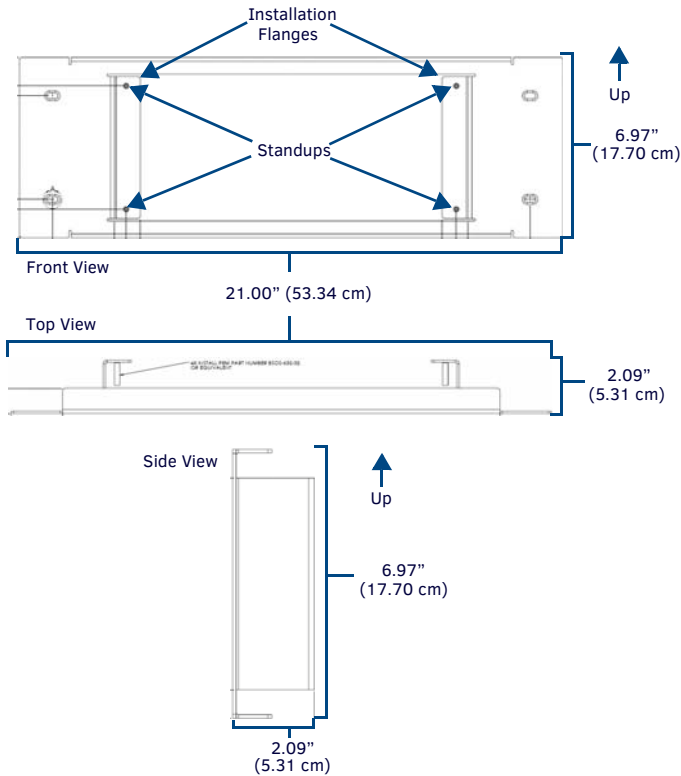
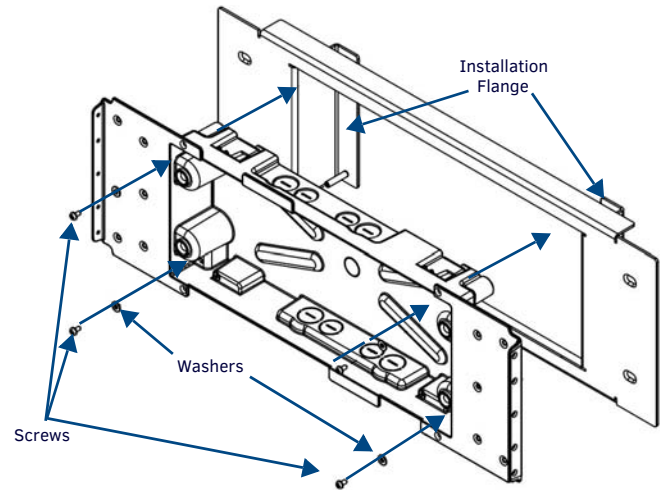
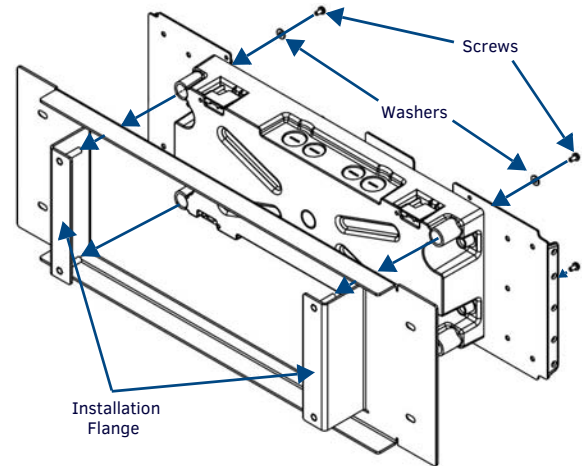

FIG. 1 MXA-RMK-19
FIG. 2 INSTALLATION OF THE BACK BOX INTO THE MXA-RMK-19, FRONT VIEW
FIG. 3 INSTALLATION OF THE BACK BOX INTO THE MXA-RMK-19, REAR VIEW
The MXA-RMK-19 Modero X Series® Rack Mount Kit (FG5969-61) is an optional accessory for the MXD-1900L-PAN 19.4" Modero X Series Panoramic Wall/Flush Mount Touch Panel (FIG. 1). The kit allows the touch panel to be mounted directly on an equipment rack, and includes a rack mount frame, screws and washers.
1. Secure the Rack Mount Panel to the rack with #10 screws. Make sure that the installation flanges (FIG. 2 and FIG. 3) face away from the front of the rack (FIG. 1).
3. Pass a washer through a #6 screw and insert it in a standoff screw hole (FIG. 2). Repeat this procedure at each corner of the Back Box.